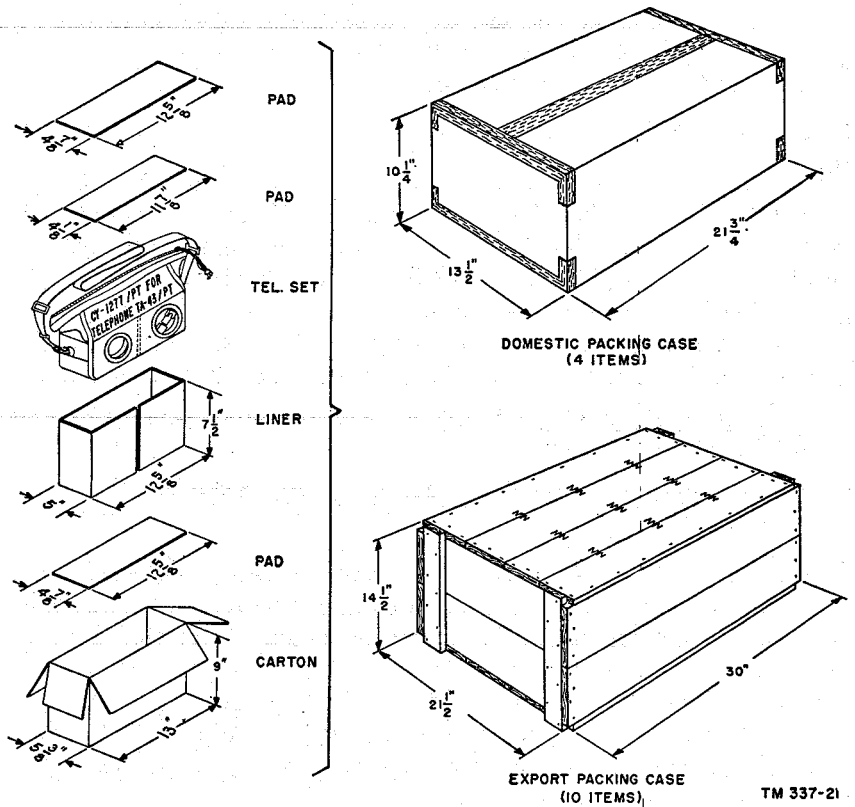

Figure 3. Packaging diagram for telephone set TA-43/PT.
(fig. 3)
a. Export Shipment (fig. 3). To unpack the export packed telephone sets follow the instructions in (1) through (7) below.
- (1) Cut and remove the metal strapping if the box is strapped.
- (2) Remove the nails from the lid with a nail puller, and lift the lid.
- (3) Cut or tear the top from the waterproof liner inside the wooden box.
- (4) Remove the individually packed telephone sets from the box.
- (5) Cut or tear the sealing tape on the top of the individual corrugated fiberboard container and open the top flaps.
- (6) Remove the two pads from the top of the telephone set.
- (7) Remove the telephone set from the container and check it as described in paragraph 13.
b. Domestic Shipment (fig. 3) To unpack the domestic packed telephone sets, open the top flaps of the packing box by cutting or tearing the sealing tape. To complete the unpacking of the TA-43/PT, refer to *a*(4) through (7) above.